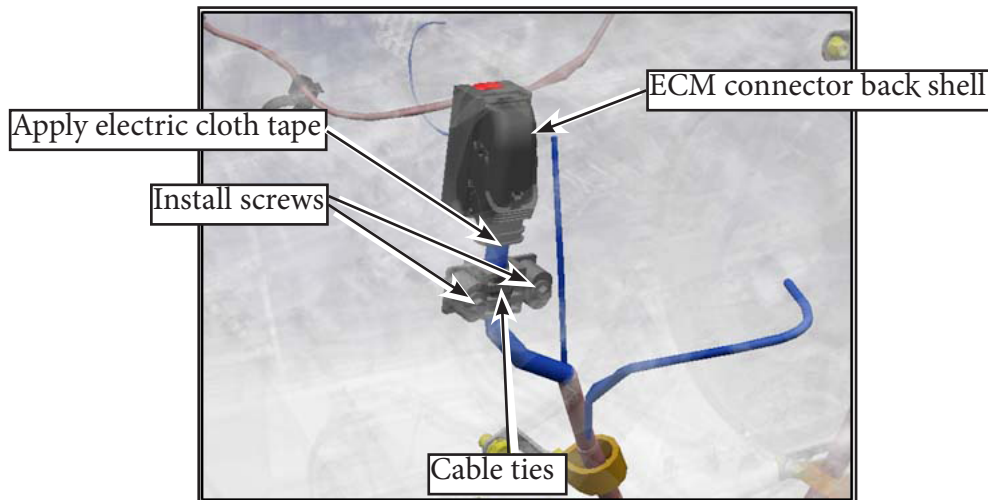

Figure 33 - Reassemble the ECM Connector
- 2.20. Apply electric cloth tape over the front-to-back cable and the exposed wiring at the ECM connector. Install the ECM connector back shell and the 3 cable ties. Connect the ECM connector to the ECM and install both strain relief screws. Reconnect any splice connector disconnected earlier (see Figure 33).